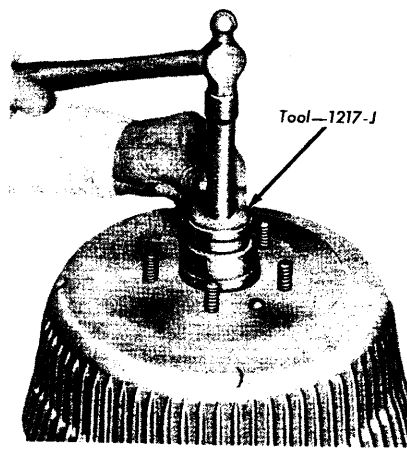

FIG. 8—Front Wheel Bearing Cup Installation
9. If the inner and/or outer bearing cup(s) were removed, install the replacement cup(s) in the hub with the tools shown in Fig. 8. **Be sure to seat the cups properly in the hub.**
3. Remove the protective coating from the new hub and drum with carburetor degreaser. Install new inner and outer bearing cups in the new hub with the tool shown in Fig. 8. **Be sure to seat the cups properly in the hub.**